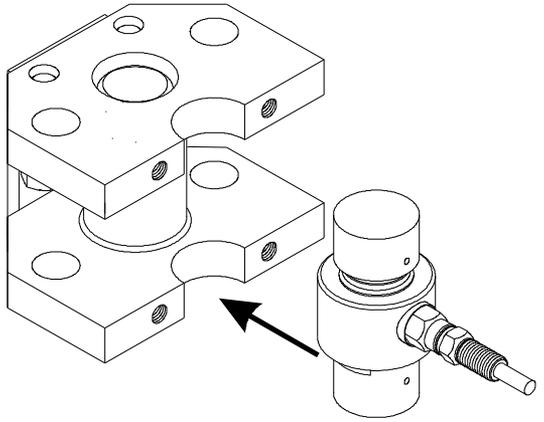

FIG. 15: INSTALLING THE LOAD CELL
Step 6. Slide the load sensor assembly into the half round sensor housing in the bottom and top plates. (See Figs. 15 & 16)